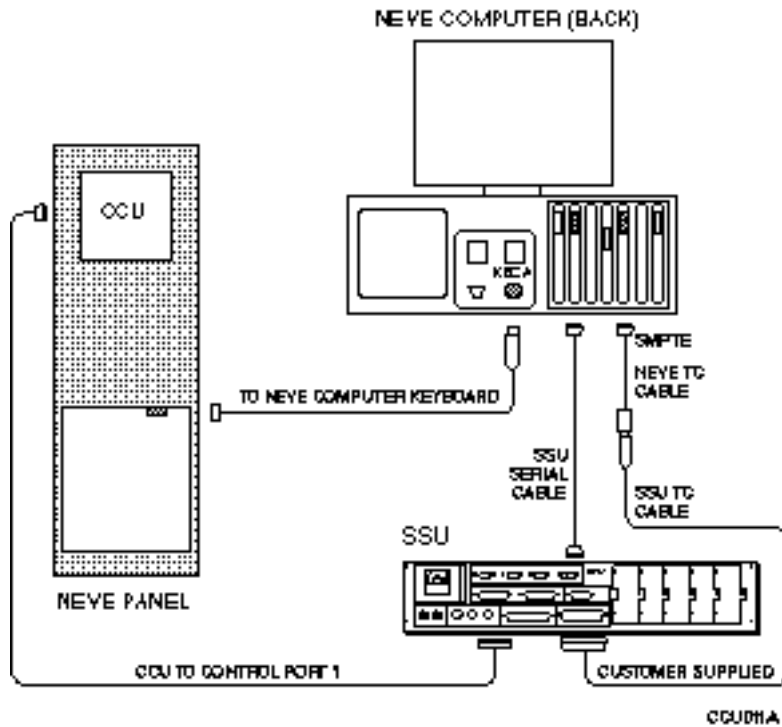

Figure 3-8. Connect the CCU to a Neve Console
3. Verify that the other end of the cable is securely plugged into the back of the Neve computer in the keyboard cable input labeled KECA as illustrated in Figure 3-8.